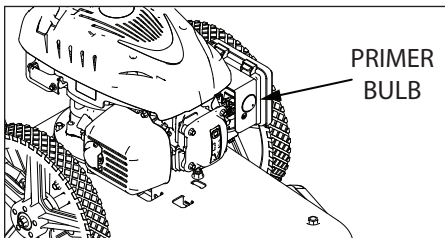

FIGURE 6: Primer Bulb Location.
1. Push the primer bulb five times. Wait approximately two seconds between each push. **SEE FIGURE 6**
3. To start a cold engine, push the primer bulb five times. Wait two seconds between each push of the primer bulb. **SEE FIGURE 6**